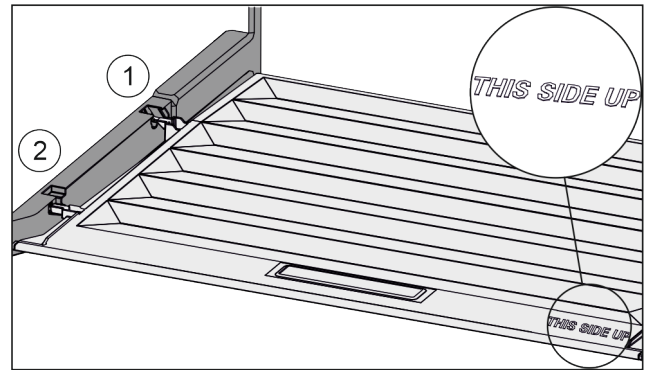

Fig. 121
- ▶ Insert the lip of the cover over the opening of the rear bracket Fig. 121 (1) and click into place Fig. 121 (2).